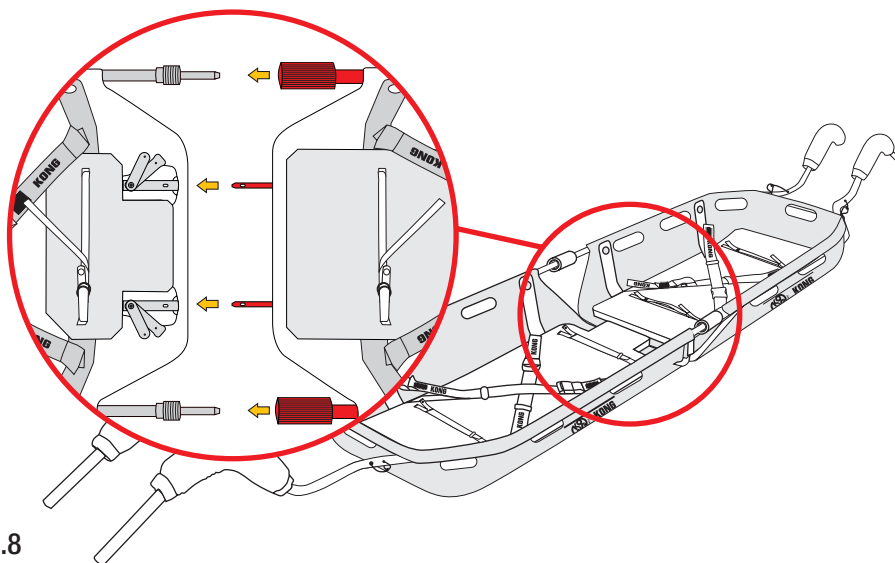

Fig.8
c) Connect the two parts of the structure using the pins on the frame (fig. 8),